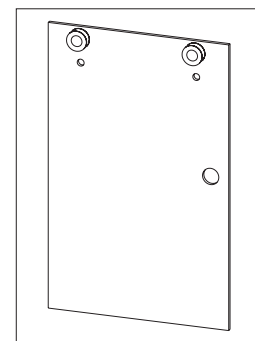

Figure 3
Install two (2) Wheel Assemblies (#7) on the Sliding Door Panel (#6) using the two (2) top holes. Once they are installed, carefully place the Sliding Door Panel (#6) into the tub/shower enclosure, setting the tempered glass on protective material and not directly on a hard surface. Lean the tempered glass Door Panel against the tub/shower enclosure wall with the Wheel Assemblies (#7) facing outward (See Figure 3).